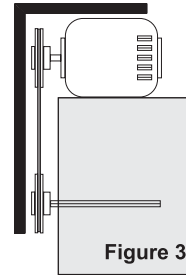

Figure 3
2. Adjust the motor plate until proper tension is reached. For proper tension, a deflection of approximately 1/4" per foot of center distance should be obtained by firmly pressing the belt. See Figure 3.
The drawing below indicates where to measure the allowable gap for the drive alignment tolerance. All contact points (indicated by WXYZ) are to have a gap less than the tolerance shown in the table. When the pulleys are not the same width, the allowable gap must be adjusted by half of the difference in width. Figure 3 illustrates using a carpenter's square to adjust the position of the motor pulley until the belt is parallel to the longer leg of the square.